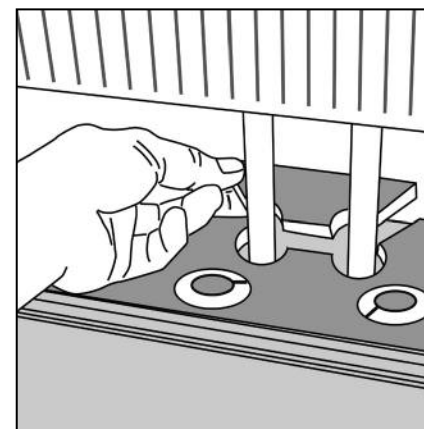

Figure 56 Radiator pipes
- > Install the floor plank. If necessary, put a bead of contact adhesive on the cut piece and replace. Insert a spacer directly behind the inserted piece to wedge it in place ensuring that the correct sized expansion gap has been left. Leave this in place until the adhesive has hardened. (Fig 56)